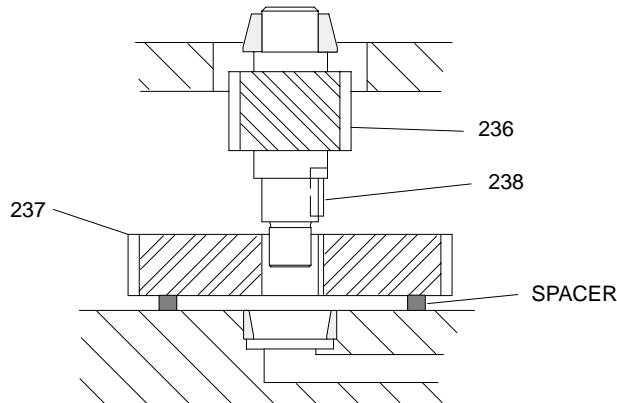

Figure 5
- a . Coat the bearing bores in the gear drive housing (200) and the low speed pinion shaft (236) with oil prior to installing the intermediate bearings (229 & 213A).
- c . Preheat the inner races of the intermediate bearings (229 & 213A), and the high speed gear (237) in an oil bath or oven with a maximum temperature of 135° C (275° F).
- d . Remove the upper intermediate bearing (229) from the oil bath or oven, and press it onto the low speed pinion shaft. Check for proper seating with feeler gauges. Refer to assembly drawing for correct orientation of the bearing races.
- e . Place two spacers (approx. 13mm (1/2 inch) high) next to the lower intermediate bearing bore as shown in Figure 5.
- f . Place the low speed pinion shaft (236), with upper bearing inner race and key (238) installed, into the gear drive housing, positioned so that it is above the top of the housing.
- g . Remove high speed gear (237) from the oil bath or oven and place it on the spacers as shown in Figure 5.